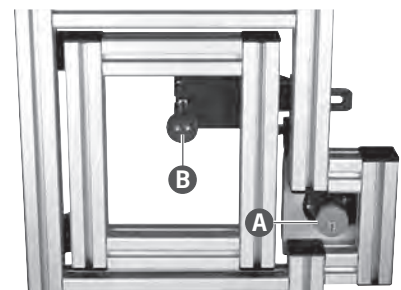

Figure 1: Safety switch with bolt (rear view)
Figure 1 shows a TZ... safety switch in combination with a TZ-F bolt with escape release. With this combination, the escape release can be operated by means of a pushbutton (Figure 1, A) and a lever (Figure 1, B).
- ▶ Pushbutton with lock (Figure 1, A)